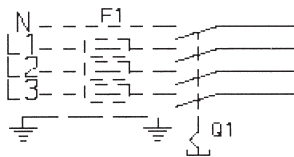

Fig. 40 - General unit power supply
- Connect the power supply for the complete system (outdoor unit and indoor unit) via the 38XTZ outdoor unit (see Fig. 40).